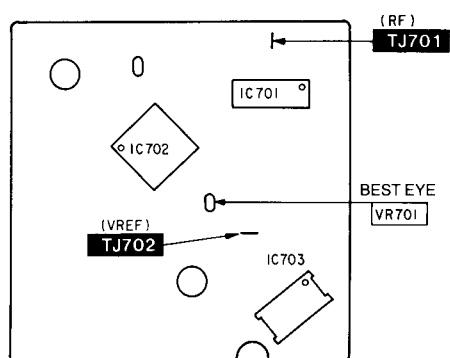

Fig. 2
3. Adjust VR701 until the RF signal eye pattern amplitude is maximized. (Shown in Fig. 2)